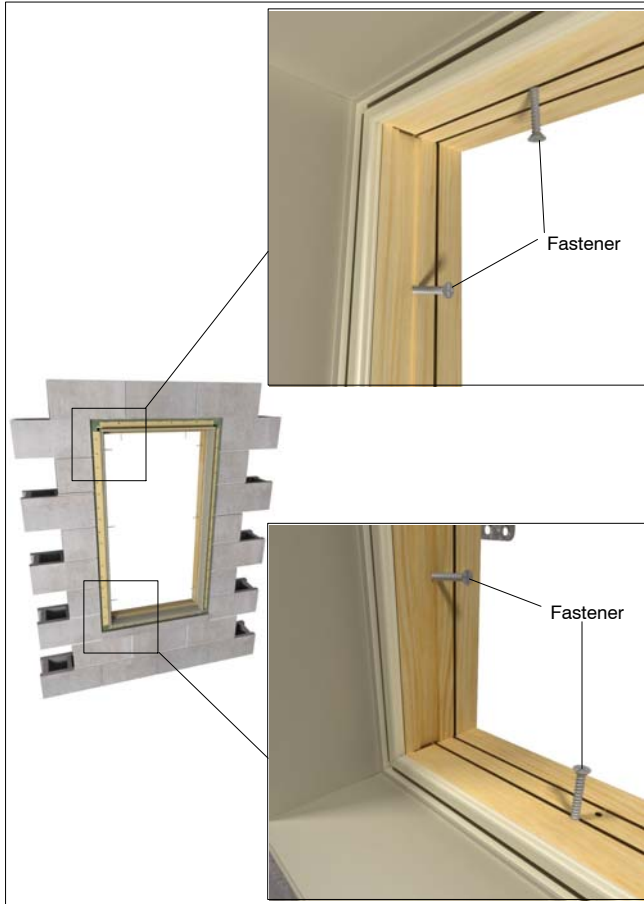

Figure 8: Exterior view, fastening through Ultimate Casement frames.
3. On **Ultimate Casement** units, position the screw so that it misses any operating hardware (if applicable). With typical installations, you should be able to locate the screw in the center groove in the frame and just to the exterior of the kerf that holds the head jamb stop. See figure 8.